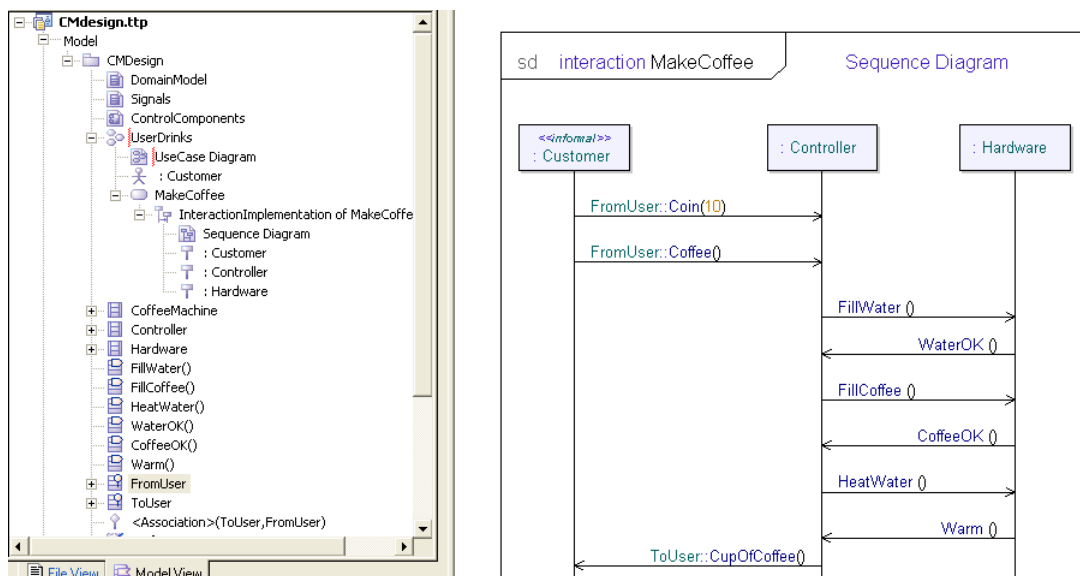

Figure 10: Sequence diagram for the use case MakeCoffee
9. Continue to draw the sequence depicted in Figure 10 on page 20